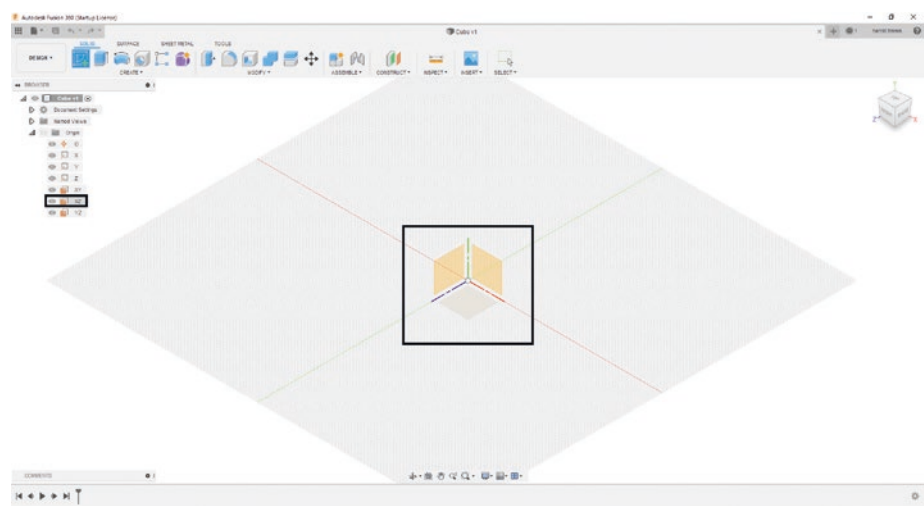

Figure 3-40. Select plane from the grid or the Browser menu
3. Select a plane to draw your sketch on. In this example, I chose the XZ plane. See Figure 3-40.